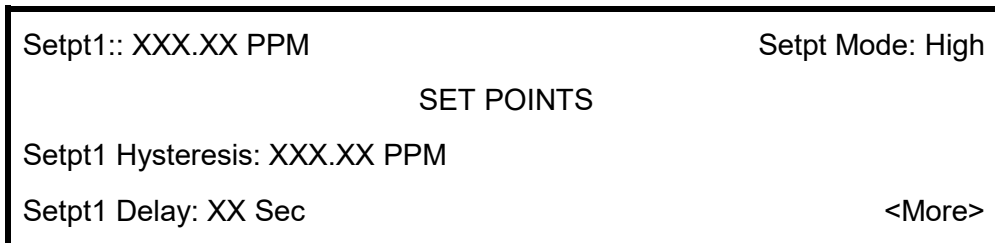

Figure 3-20: Calibration Menu
5. The “SET POINT” menu. Allows entering value of operation for 1-4 output alarm relays. The parameters that can be entered are Hysteresis, a time delay (an alarm condition must be met for this time before the relay actuates) and mode (make or break on activity count rise). See Figure 3-20.